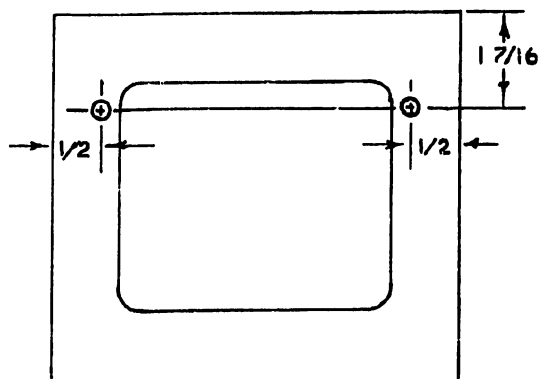

FIG. 2
- () 12. If not already present, mark and drill two 5/32 inch holes in the back of the C.S. box, as shown in Fig. 2.